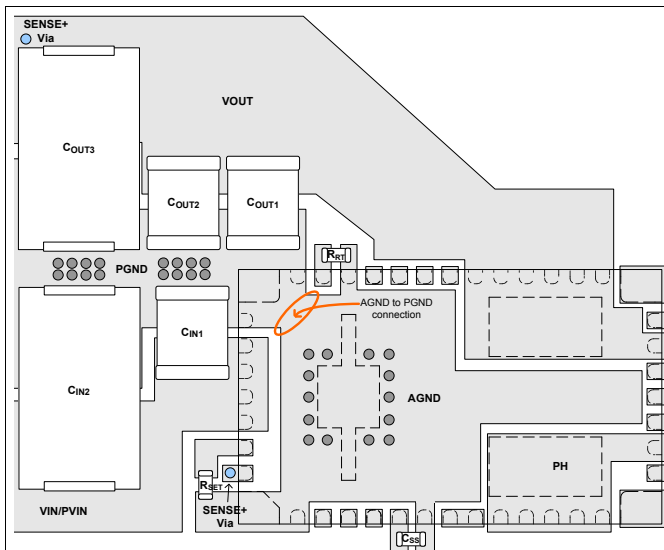

Figure 43. Typical Top-Layer Recommended Layout
To achieve optimal electrical and thermal performance, an optimized PCB layout is required. Figure 43 and Figure 44 show two layers of a typical PCB layout. Some considerations for an optimized layout are:
- Connect the AGND and PGND copper area at one point; see AGND to PGND connection point in Figure 43.